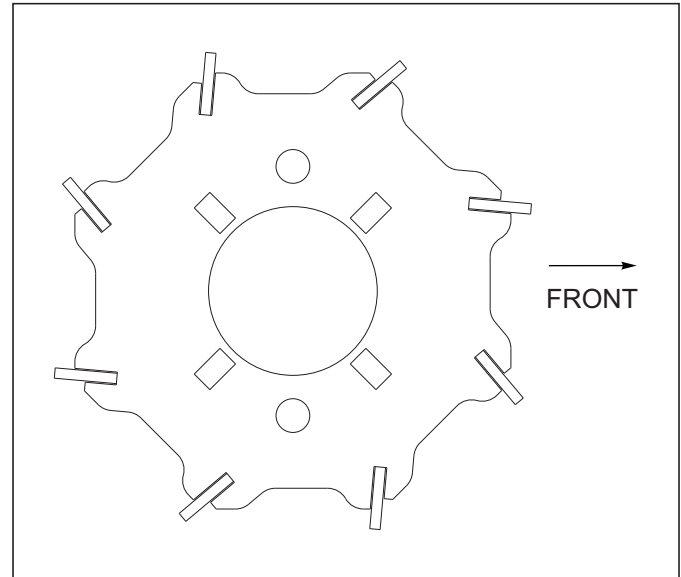

Figure 3-23: Flat Reel
7. Attach flat bar reels with angled blades as shown See Figure 3-23.